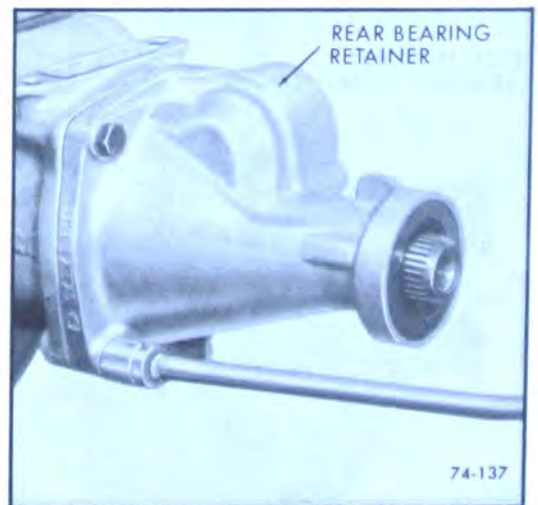

Figure 74-137
1. Remove four (4) rear bearing retaining bolts. See figure 74-137. Remove rear bearing retainer from case.